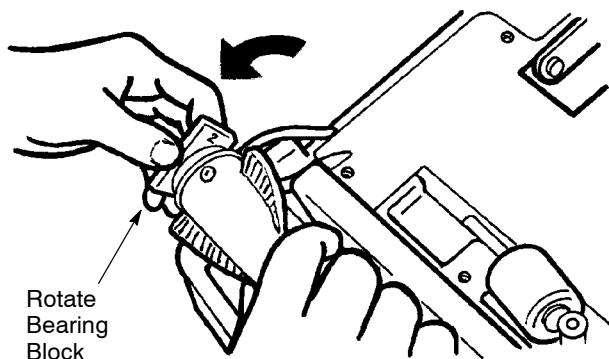

FIG. 10
- d. Rotate both bearing blocks 180° and reinstall brush (Figure 10).